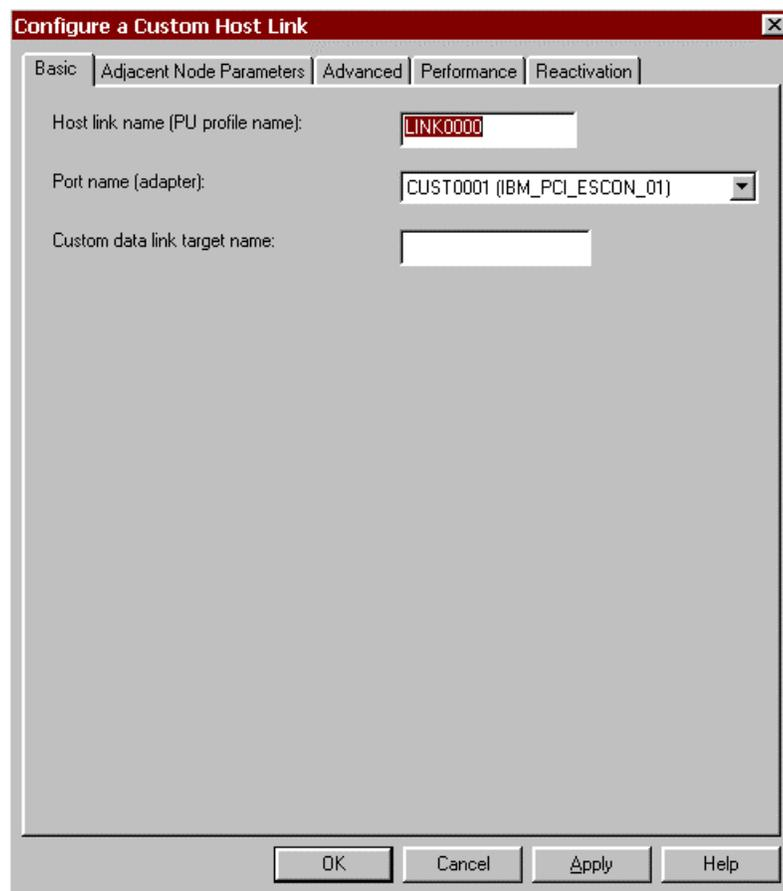

Figure 10-14. Configure a Custom Host Link - Basic
3. The **Configure a Custom Host Link** screen will display (Figure 10-14). Note that the **Reactivation** tab is new to version 4 of the configuration utility.